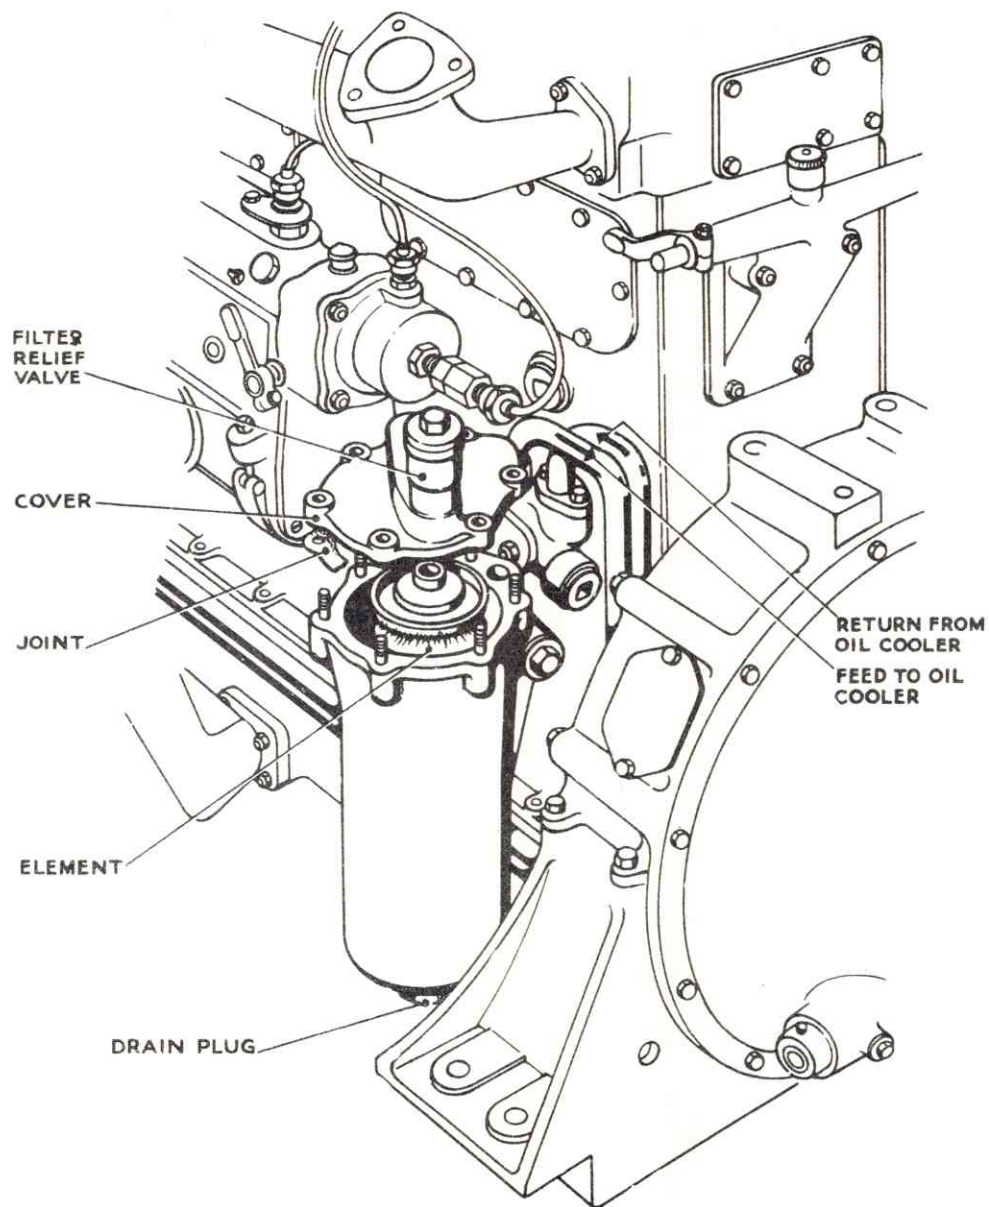

Fig. 10. Lubricating Oil Filter - Type 350
Type 350 cu. in. engine	Leyland full-flow. (Fig. 10)
This oil filter is a full-flow cloth element type, mounted at the left-hand rear of the engine block. The oil is drawn from the sump and pressure-fed into the filter housing, where it is filtered hot. After passing through the element the oil is fed to the oil cooler in the radiator bottom tank, cooled and fed back to the oil transfer block, see Figs. 10 and 11, between the filter and engine-block and discharged into the main lubrication gallery.
1. Unscrew the nuts securing the filter cover to the casing and remove the cover, see figs. 10 and 11.